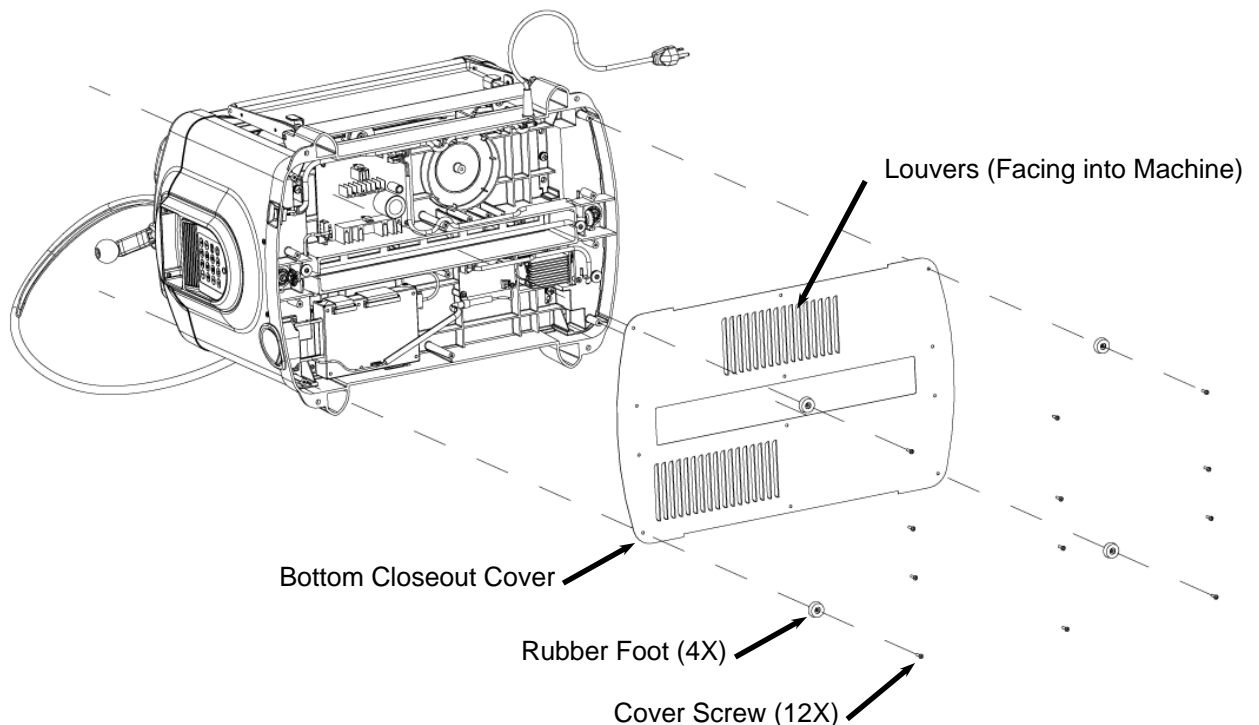

FIGURE 1: REMOVAL OF THE BOTTOM COVER
7. **Replace the bottom cover:** Carefully lay the machine on its back again with the dust collection port facing down. Replace the metal cover with the louvers pointing into the machine (see Figure 1). Insert and tighten the 12 screws. The four rubber feet are placed at the corners of the machine.